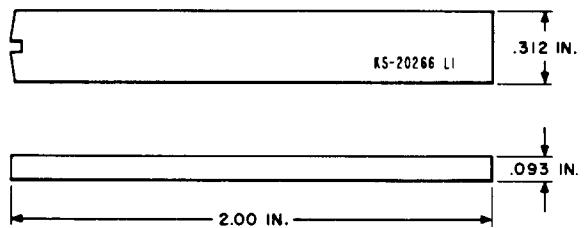

Fig. 19—KS-20266, L1, Adjuster
2.20 KS-20266, L1: The KS-20266, L1, adjuster (Fig. 19) is used in bending out cam teeth on normal post springs of the 197-type switches.